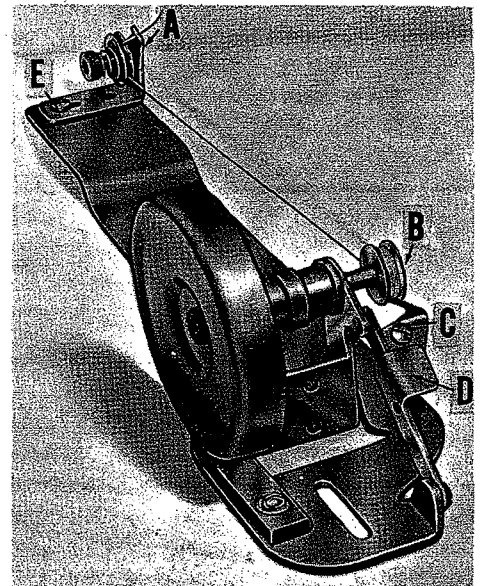

Fig. 6
Thread the bobbin winder by leading the thread from the supply down through the eyelet (A, Fig. 6), down between the tension discs, and under the tension post. Press an empty bobbin on the winder shaft (B), up to the stop, wind the end of thread around bobbin a few turns in a clockwise direction and press downwardly on hand lever (D) until pulley is moved into contact with machine belt, and is locked in that position. When the machine is operated, the bobbin will be rotated and filled until the thread engages the automatic throw-out member, which disengages the pulley. The extent to which the bobbin is filled can be varied by regulating the screw (C).